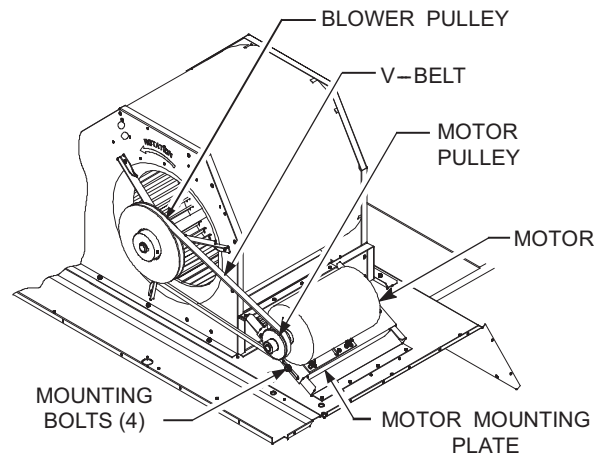

Fig. 8 — Typical Belt Drive Motor Mounting
The belt-drive supply fan system consists of a forward-curved centrifugal blower wheel on a solid shaft with two concentric type bearings, one on each side of the blower housing. A fixed-pitch driven pulley is attached to the fan shaft and an adjustable-pitch driver pulley is on the motor. The pulleys are connected using a V-belt. (See Fig. 8.)
Use the following steps to replace the V-belt. See Fig. 8.
2. Loosen belt by loosening fan motor mounting nuts. (See Fig. 8.)